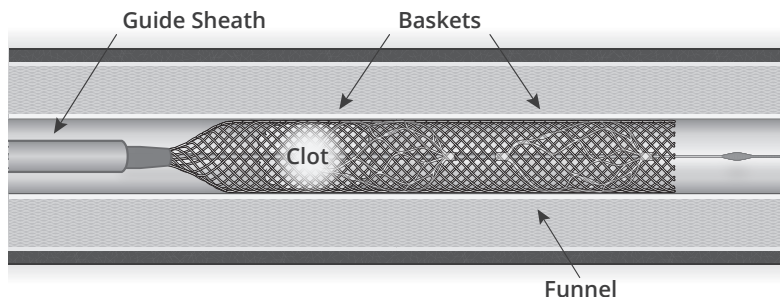

Figure 12
14. With the two baskets distal to, or within the clot, slowly pull back on the basket wire and clot until the distal-most basket tip is just inside the funnel (see Figure 12). Confirm placement under fluoroscopy.